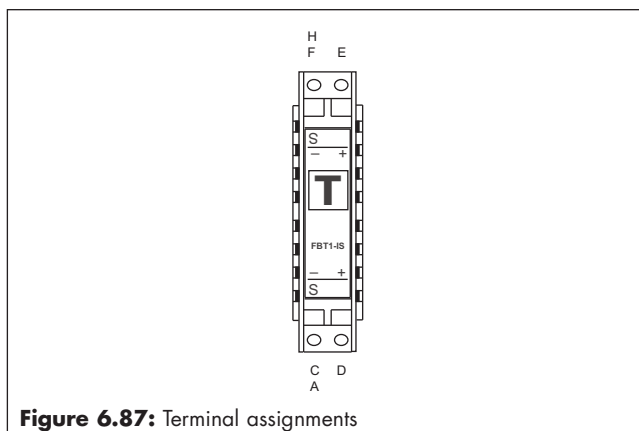

Figure 6.87: Terminal assignments
The +, - and cable screen (S) connections are indicated in Figure 6.87. The terminals will accept cables with a cross sectional area of up to 4 mm². A straight blade screwdriver with a maximum blade width of 3.5 mm is required to operate the terminals. The recommended tightening